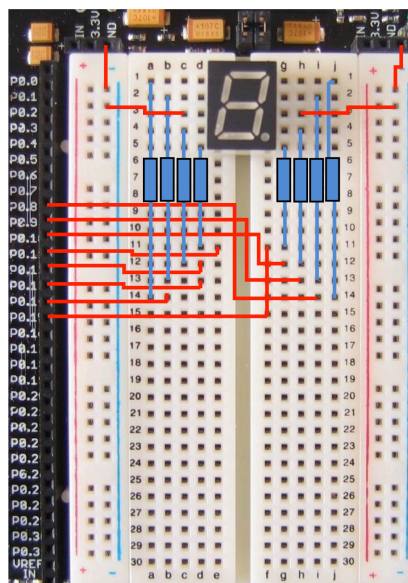

Figure 1: Wiring for the Seven Segment Display. (Diagram © Embedded Artists.)
1. The first task is to connect up (see Figure 1) the seven-segment display that comes with your board and have it display F, E, D, C, ... 5, 4, 3, 2, 1, 0, F, E, ... endlessly.